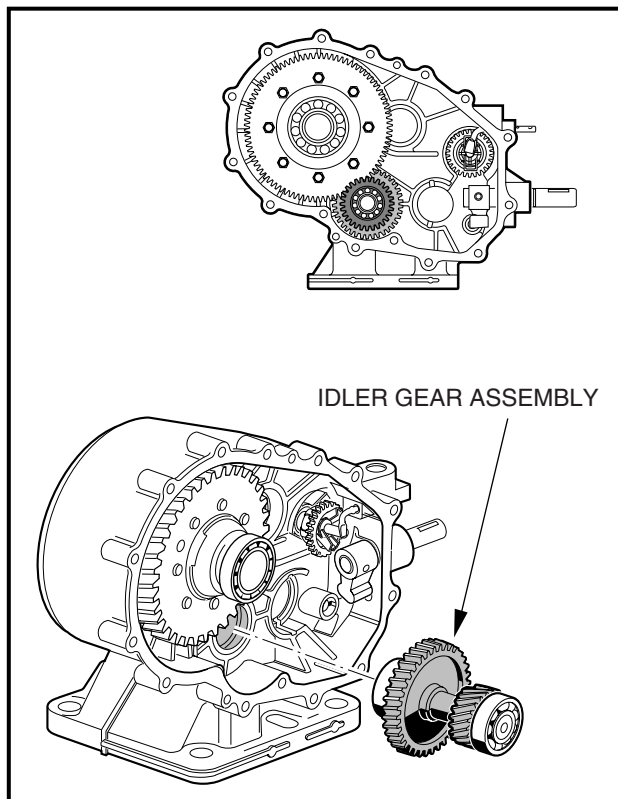

Figure 6-49 Idler Gear Assembly
- 7.2. Install the idler gear assembly into case. Do not seat the assembly in the bore, instead insert far enough that it will not fall out. No gears mesh at this point (**Figure 6-49, Page 6-23**).